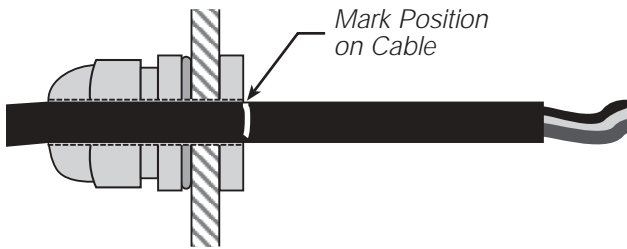

Figure 2-1. Mark Length of Cable at Inside of Cord Grip
3. Loosen cord grips, then route cables through cord grips. Determine cable length required to reach connector J1. Mark the cable at the inside edge of the cord grip (see Figure 2-1 on page 4).